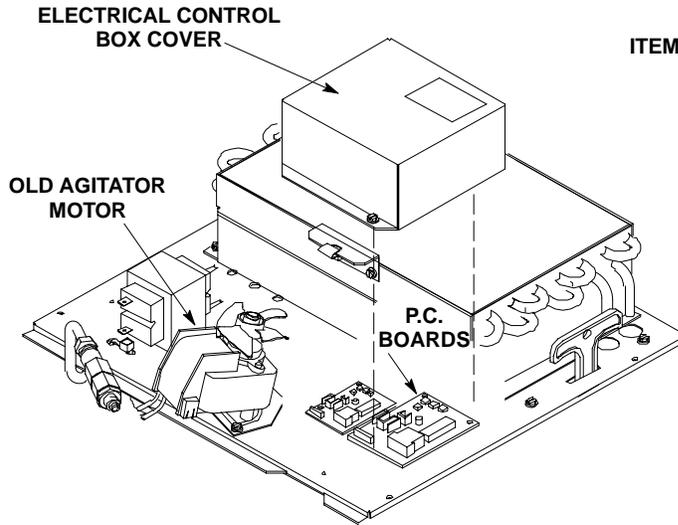

FIGURE 1.
2. Remove hood from Dispenser, then remove cover from electrical control box (see Figure 1).
3. Disconnect old agitator motor assembly electrical wires from L1 and L2 terminals on the PC board (see Figures 1 and 4) inside the electrical control box.